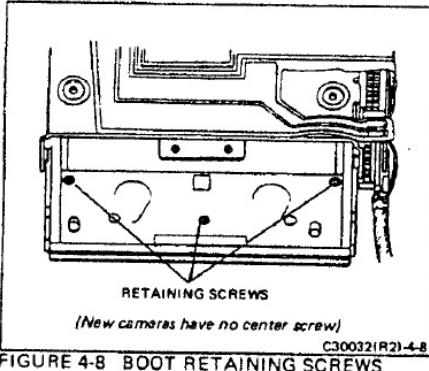

FIGURE 4-8 BOOT RETAINING SCREWS
- Remove the inner-frame-to-boot-retainer screws (see Figure 4-8).
6. Remove the inner frame to boot retainer screws (refer to Figure 4-8).